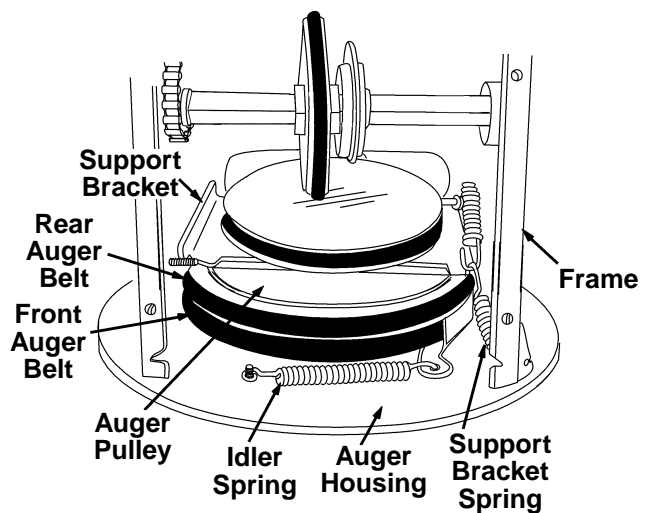

Figure 21
6. Unhook the idler spring from the hex bolt on the auger housing. See figure 21.
8. Lift the rear auger belt from the auger pulley, and slip belt between the support bracket and the auger pulley. See figure 21. Repeat this step for the front auger belt.